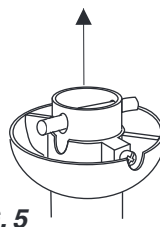

FIG. 5
- E. Replace the ball pin in the downrod and slide the ball up so that the pin is in the slot in the ball (Fig 5). Tighten the ball set screw.